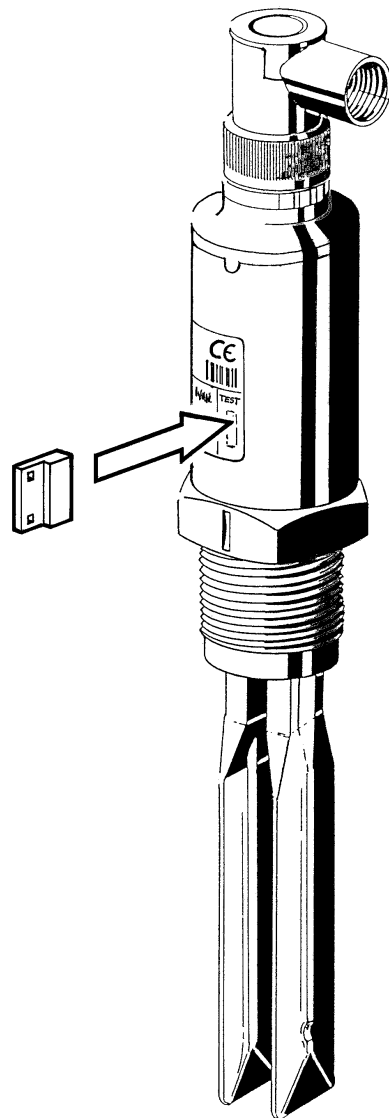

Fig. 5.1
- Hold the test magnet (accessory) to the magnet symbol on the instrument housing (see fig. 5.1). The test magnet simulates a covering of the tuning fork. If the tuning fork is uncovered, the signal lamp of the level switch changes status. The electronics and the switching output of the level switch are checked now. Note that the connected instruments will be activated during the test.